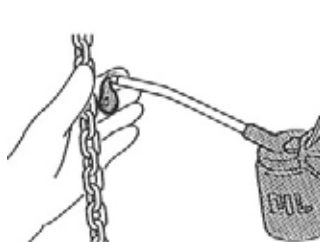

fig.89
9. Spray the oil generously and spread it over the entire length of the chain, taking particular care to lubricate the chain's contact points. See also point 6.3.4 for the types of oil. (fig.89)